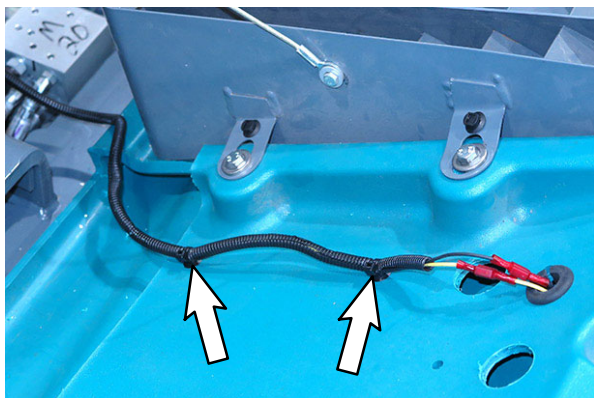

FIG. 11
19.Use cable ties (15) to secure the blue spotlight harness (14) to the front shroud. (Fig. 11)